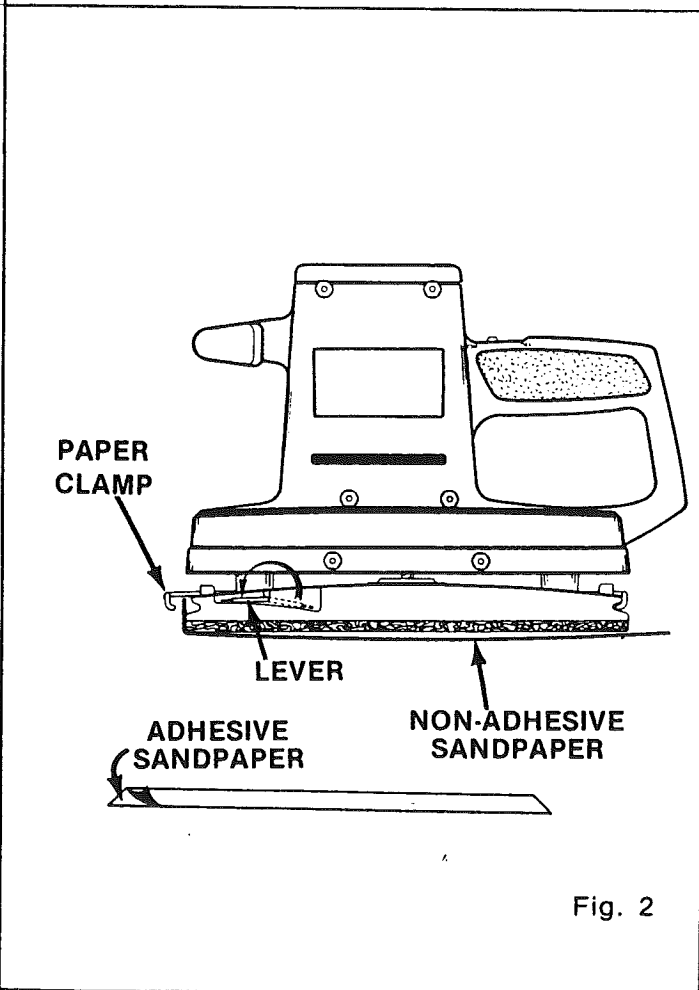

Fig. 2
2. If replacing sandpaper, remove old sandpaper by peeling it off cushion. If removing regular sandpaper, release lever on paper clamp by pulling it out and rotating toward the end of cushion as shown in Figure 2.
3. Peel adhesive backing from new 1/2 sheet sandpaper. See Figure 2.
2. Release lever on paper clamp by pulling out and rotating toward end of cushion as shown in Figure 2.
3. Place 1/2 sheet sandpaper under paper clamp. See Figure 2.